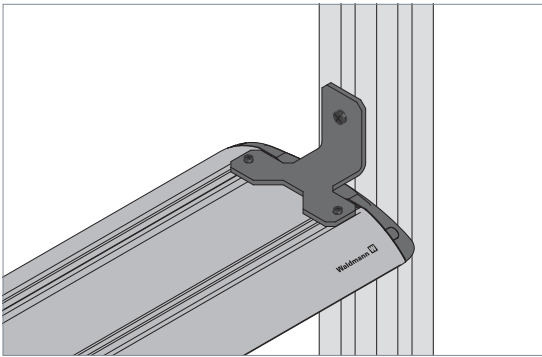

Fig. 13: Mounting the luminaire of mounting type "Lateral"
- ▶ Mount the luminaire on the mounting surface using a suitable screw, see Fig. 13.